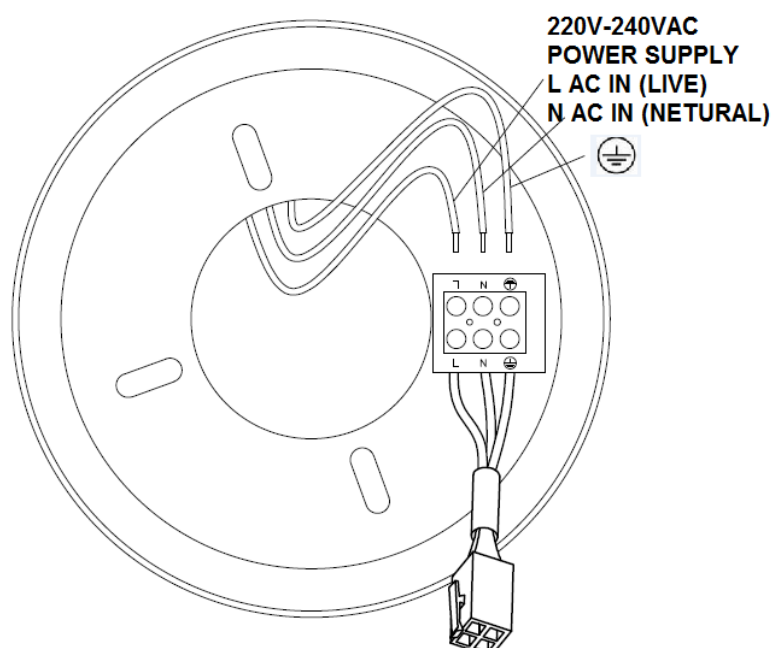

Fig. 4
- Complete the electrical wiring using the diagram below (Figure. 4).
## **PREPARE AND COMPLETE THE ELECTRICAL WIRING --- WIRING DIAGRAM (Fig. 4)**